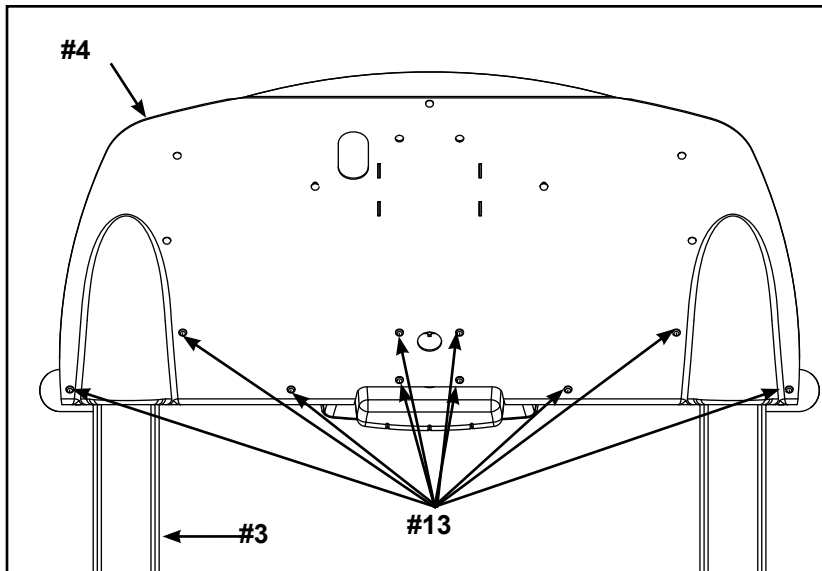

Figure 6
- D. Using a Philips head screwdriver secure the console back (#4) to the upright assembly (#3) using ten screws 8-32 x .38" (#13). Fully tighten the two screws installed in step 7C. See Figure 6.